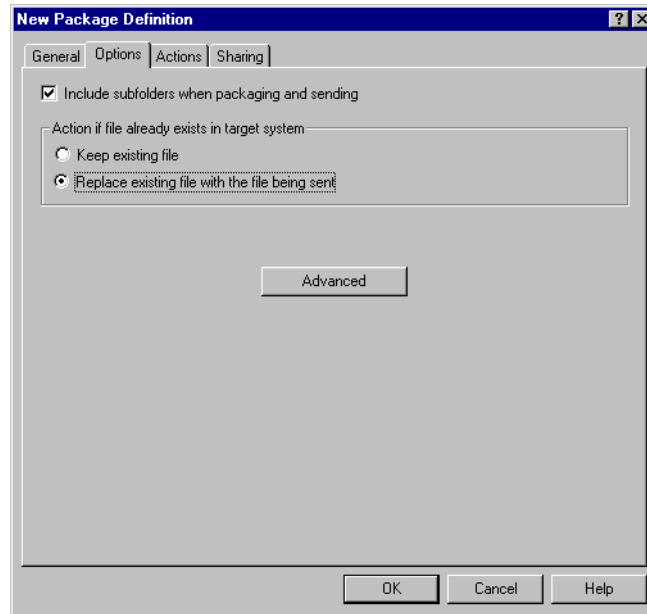

Figure 175. Package definition (option)
4. Click the **Option** tab. The window, which is shown in Figure 175 on page 207, appears. Because your target systems have the same file name already, you need to select **Replace the existing file with the file being sent**.